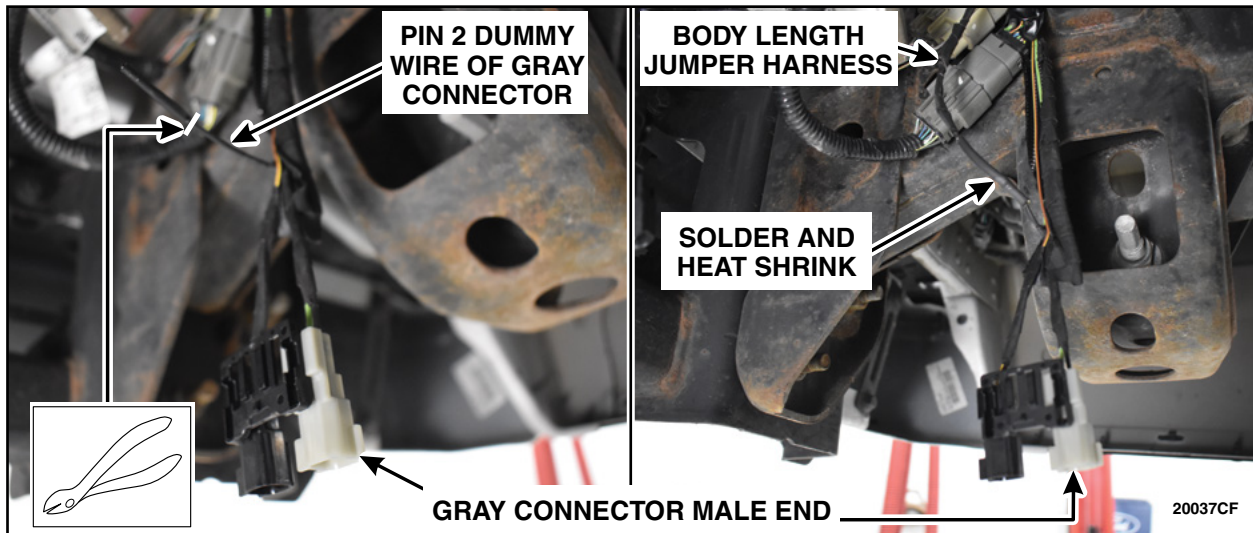

FIGURE 87
79. Remove any tape and/or convolute from the gray connector male end to expose the pin 2 dummy wire. Cut the pin 2 dummy wire just in front of the heat shrink tubing and discard the heat shrink end. Install a *new* piece of heat shrink tubing, twist the end of the Body Length Jumper Harness without a terminal and the connector male end pin 2 dummy wire together. Solder the twisted wires then apply and seal the heat shrink tubing. Reapply the convolute and/or black electrical tape. See Figure 87.